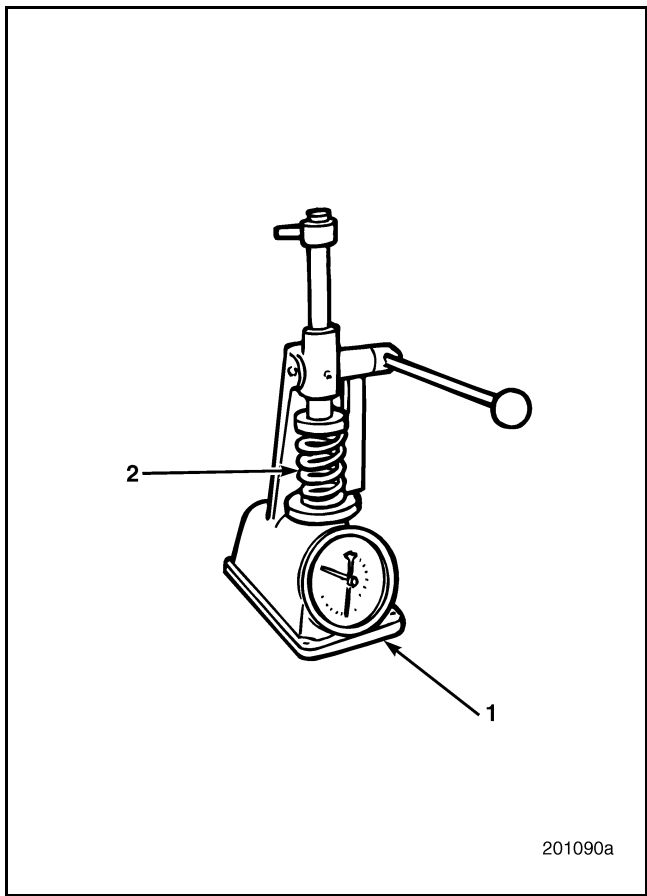

Figure 268 — Checking Valve Spring Pressure
- Check the springs on the universal spring tester J 22738-02 as shown in Figure 268. Measured pressures should be within the allowable limits when springs are compressed to the specified “valve open” and “valve closed” dimensions. **Replace the springs if pressures are not within the specifications listed below:**